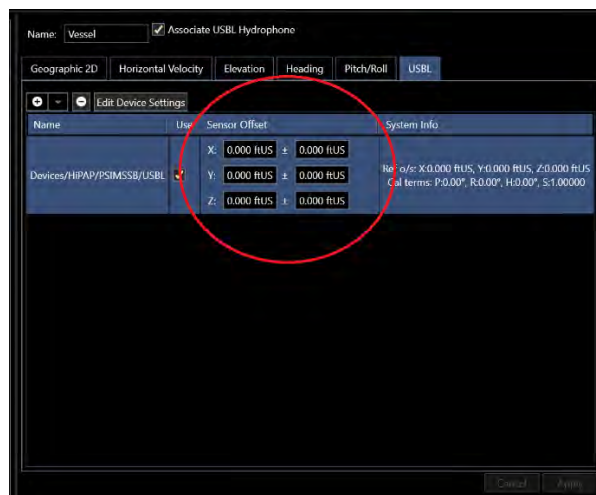

FIGURE 6-20 USBL OBSERVATION SENSOR OFFSETS
- a. Enter the Sensor Offsets from the CRP to the transducer (see Figure 6-20)
- a. Enter the Sensor Offsets from the CRP to the USBL reference point (see Figure 6-20)